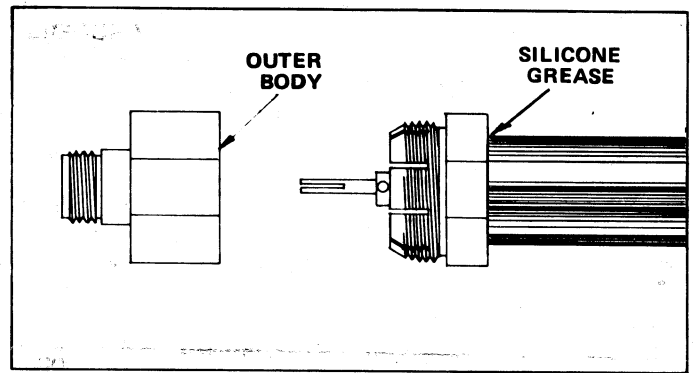

FIGURE 4
STEP 4. Screw outer body onto clamping nut. See Figure 4. Tighten connection with wrenches. Turn outer body only; do not turn clamping nut. Force silicone grease into opening between cable jacket and clamping nut to prevent moisture from entering. For further weatherproofing, tightly wind four to five layers of vinyl tape over opening and at least 1 in. (25 mm) to either side.